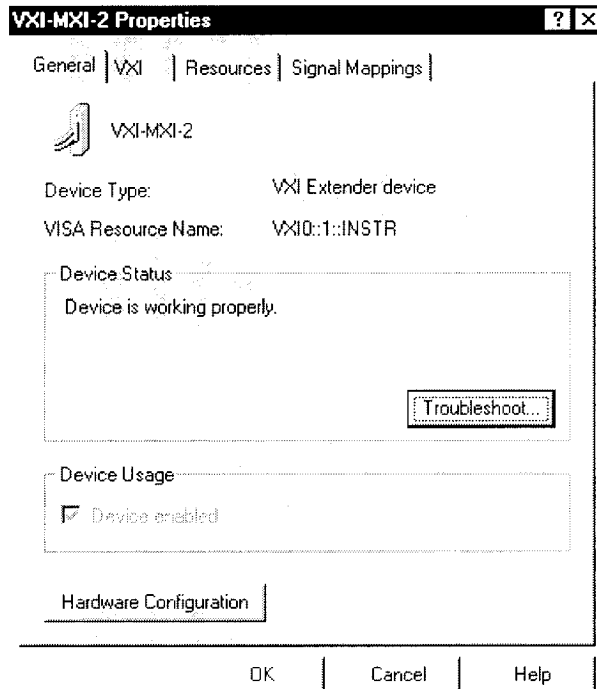

Figure 2-7 *VXI-MXI-xx Properties*
- Double-click the **VXI-MXI-xx** item. The **VXI-MXI-xx Properties** dialog box appears as shown in Figure 2-7.
5. Double-click the **VXI-MXI-xx** item. Refer to Figure 2-7.